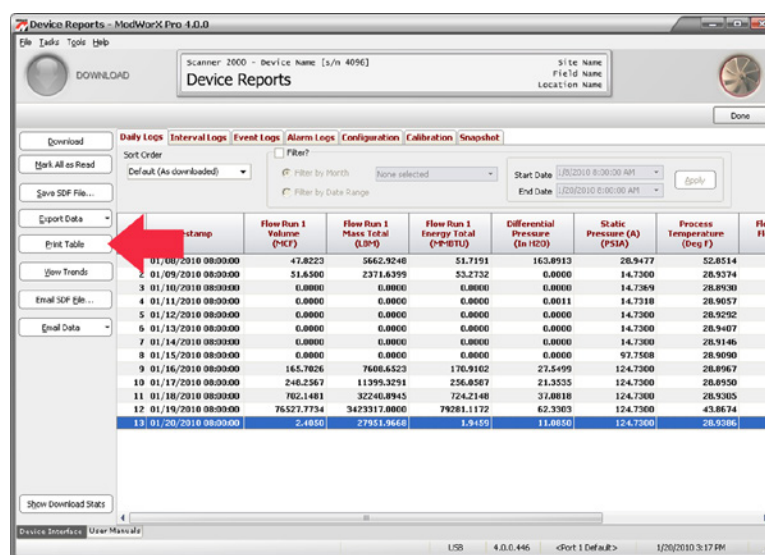

Figure 14.23
2. Click **Print Table** in the left column of the screen (Figure 14.23).